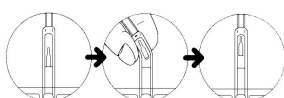

Figure 2
5. First break the breakaway cannula (Figure 2) on the primary bag and then break the breakaway cannula on the SAG-Mannitol solution bag.